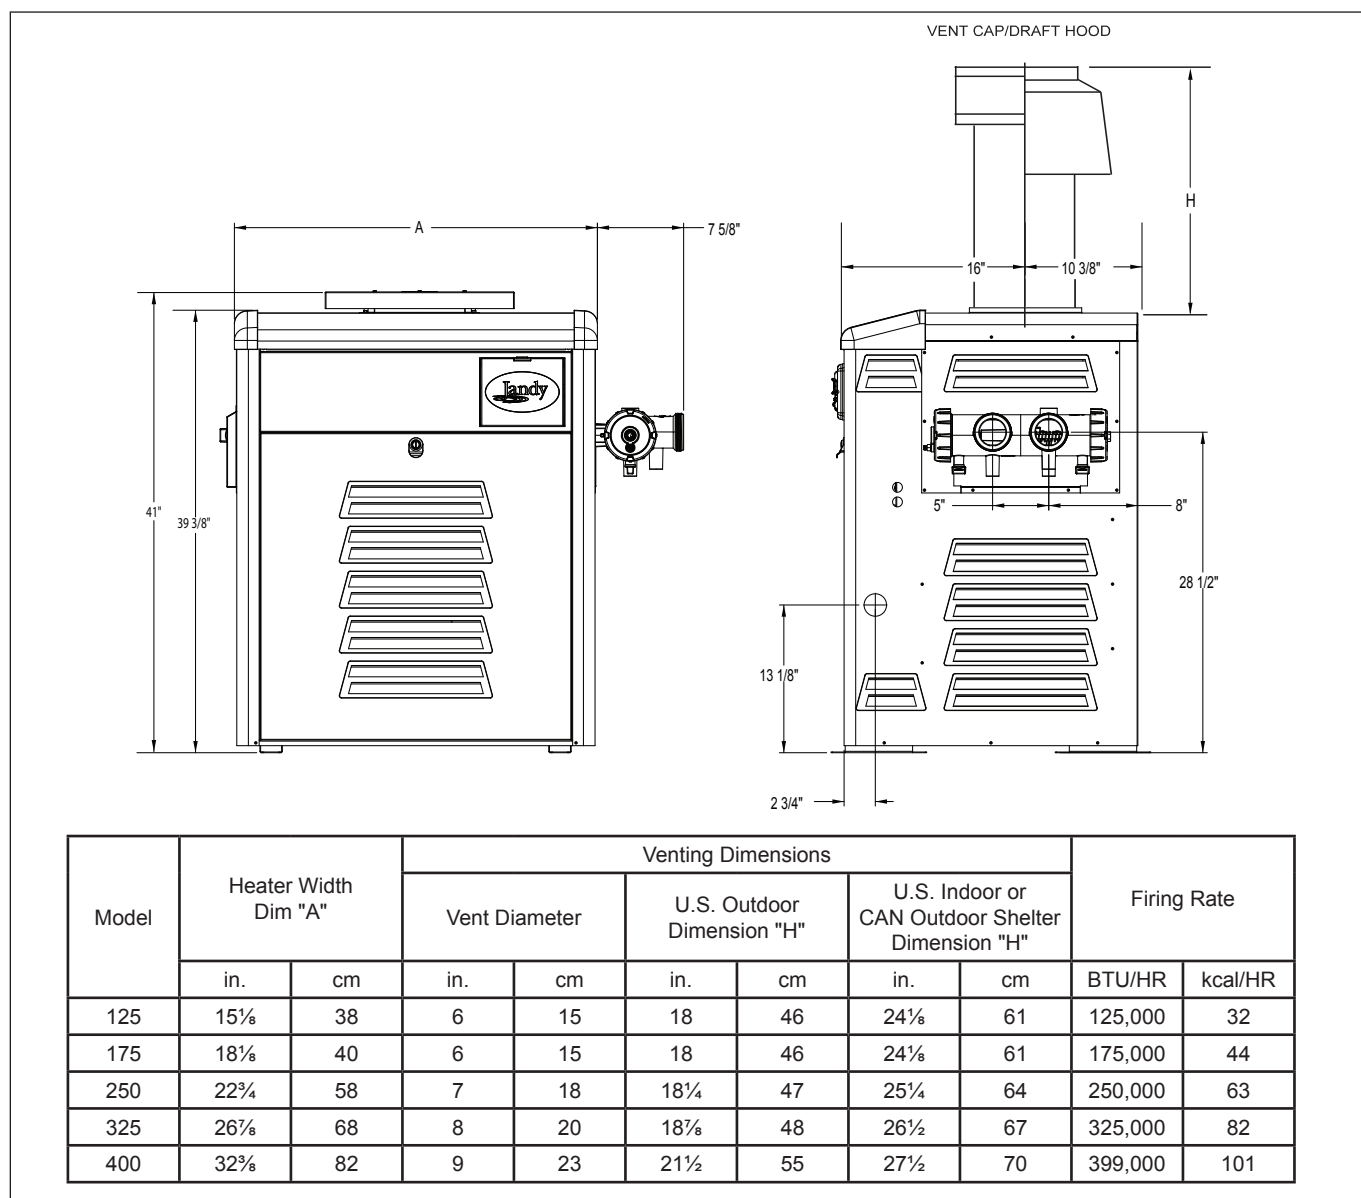

Figure 1. General Configuration
9. Exhaust Vent Connection Size: See Figure 1 in Section 1.7.2, "Dimensions".
See Figure 1 for a diagram showing the heater's exterior dimensions and dimensions to critical connections on the heater.